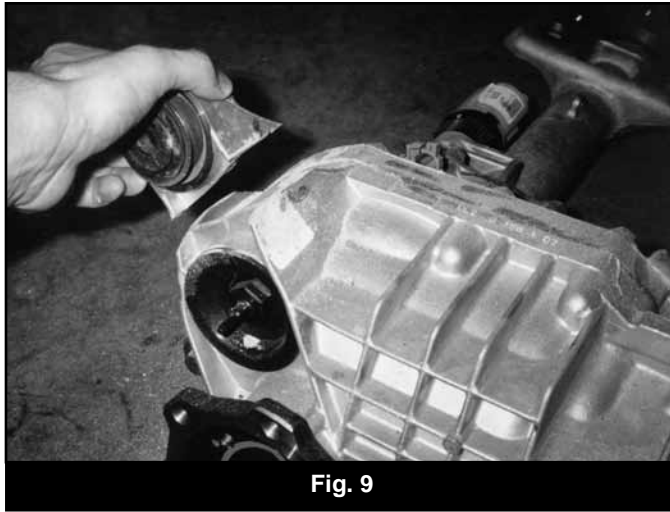

Fig. 9
26. The mounting bushing eye located on the upper front side of the differential housing must be removed. Mark a cut line on the housing that follows the contour of the top of the housing. Cut the eye off of the housing (Fig 9).